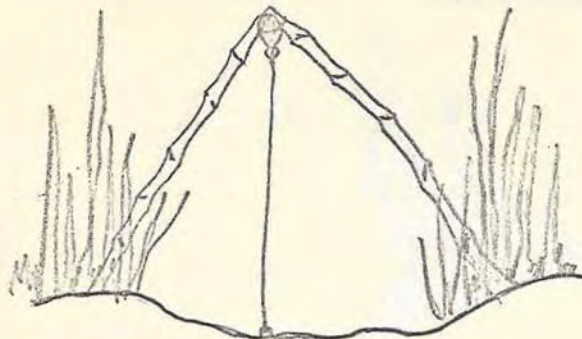

FIGURE 63. BAMBOO ARCH
d. Bamboo Arch: Recently the Viet Cong guerillas in Vietnam have been making bamboo arches across trails. A grenade is secured at the top of the arch and the trip wire secured to the grenade. Any contact with the trip wire will detonate the grenade. This is employed most effectively at night as a warning device. The location of the grenade achieves a large casualty radius. During the day the trip wire is loosened from the ground and wound around the bamboo arch to allow use of the trail to the guerillas. (Figure 63).